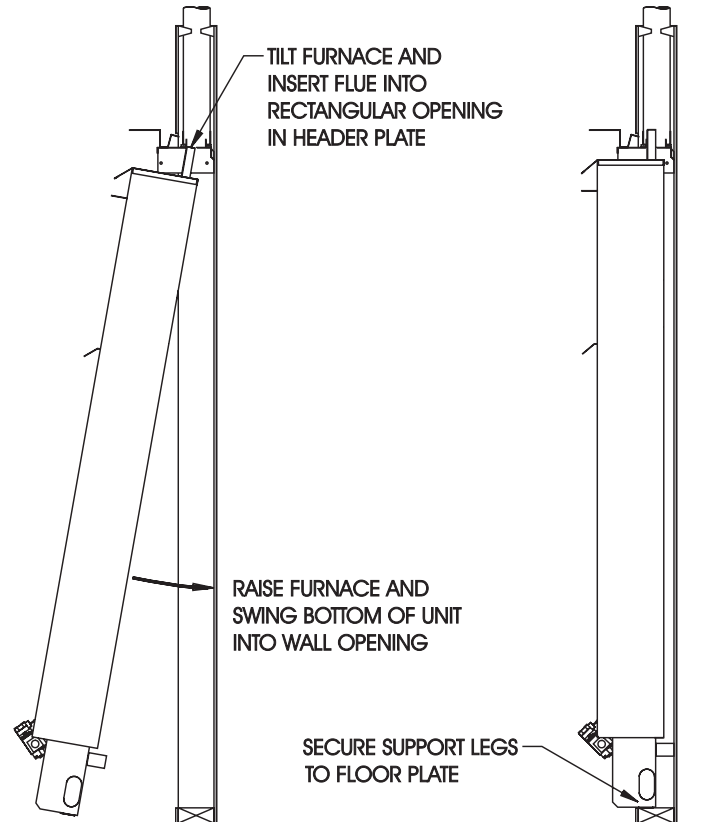

Figure 20
3. Insert furnace flue into rectangular opening in header plate and raise furnace carefully (see Figure 20).